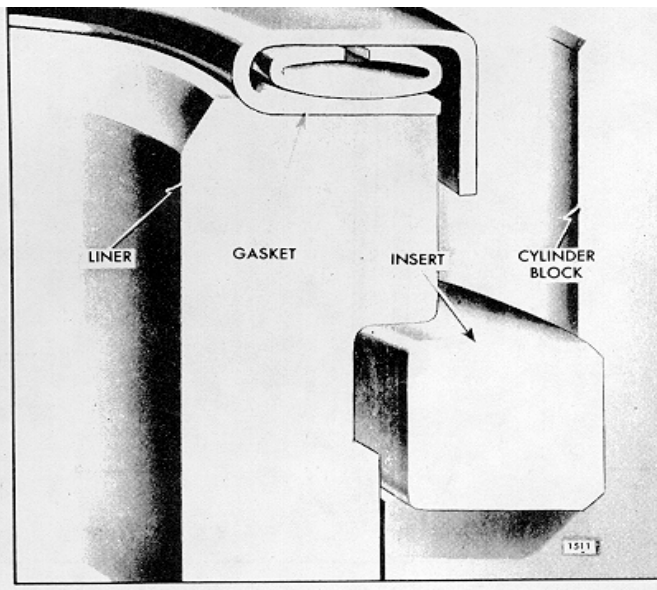

Fig. 11 - Cylinder Liner Mounting in Block
2. Place a standard size cylinder liner insert (.1795"-1800" thick) in the block counterbore (Fig. 11).